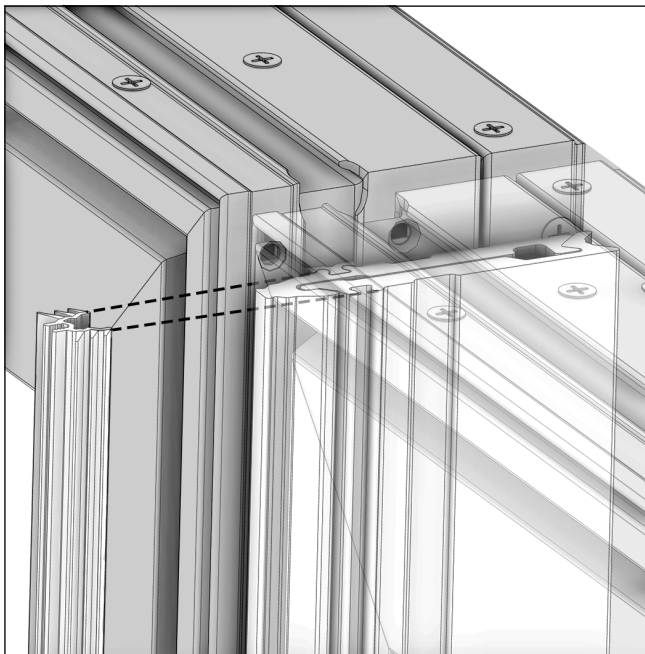
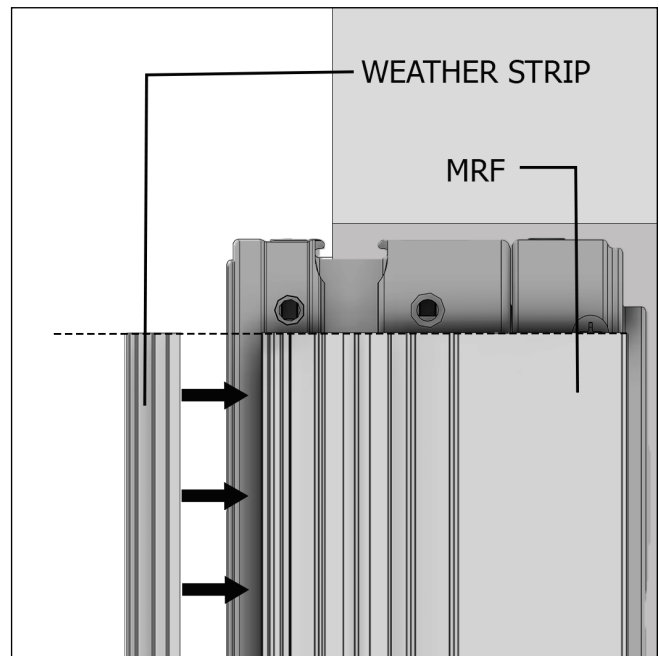

Figure 78
Figure 79
15. Install weather strip flush to the MRF with a mallet until seated. See Figure 78 and Figure 79.